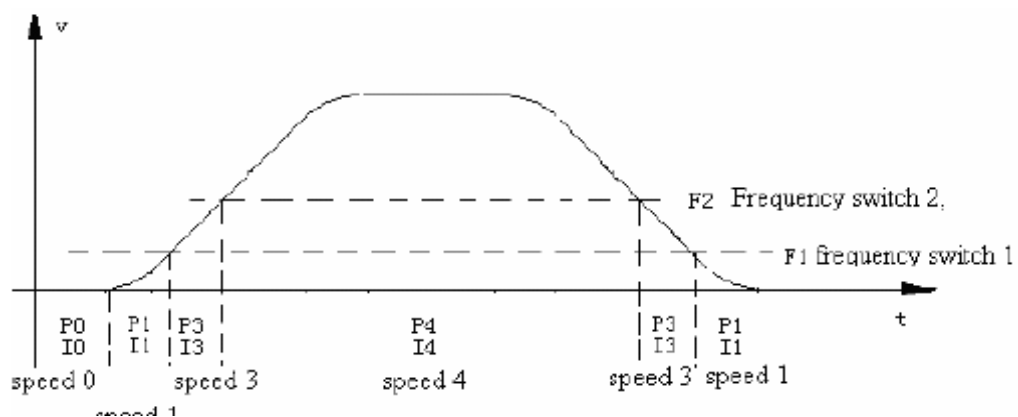

Figure 6.7 PI control during elevator operation
Function codes C03 to C10 correspond to P and I values of the PI adjuster at different stages during operation (see Figure 6.7). Comfort during elevator operation may be increased through adjustments to C03 to C10 at different stages. Function codes C11 and C12 are used for frequency switching between stages (see Figure 6.7).
- d) Figure 6.7 shows the PI adjuster divisions along the elevator operation curve.